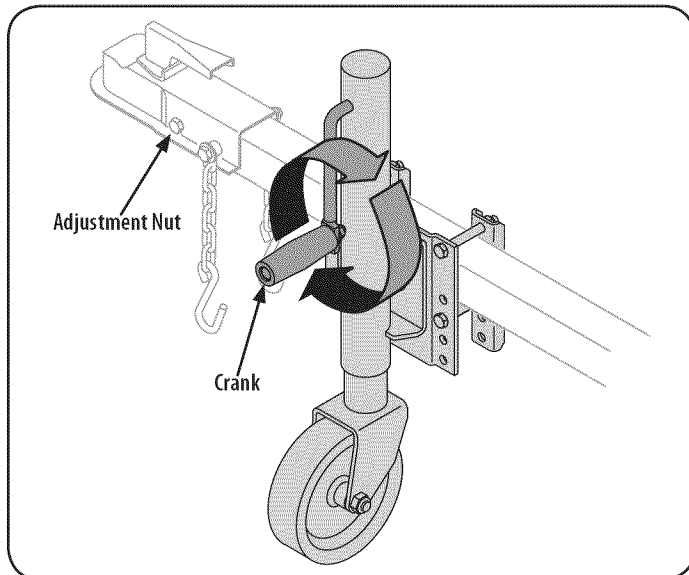

Figure 18
2. Raise the adjustable jack stand by turning the crank clockwise. See Figure 18.